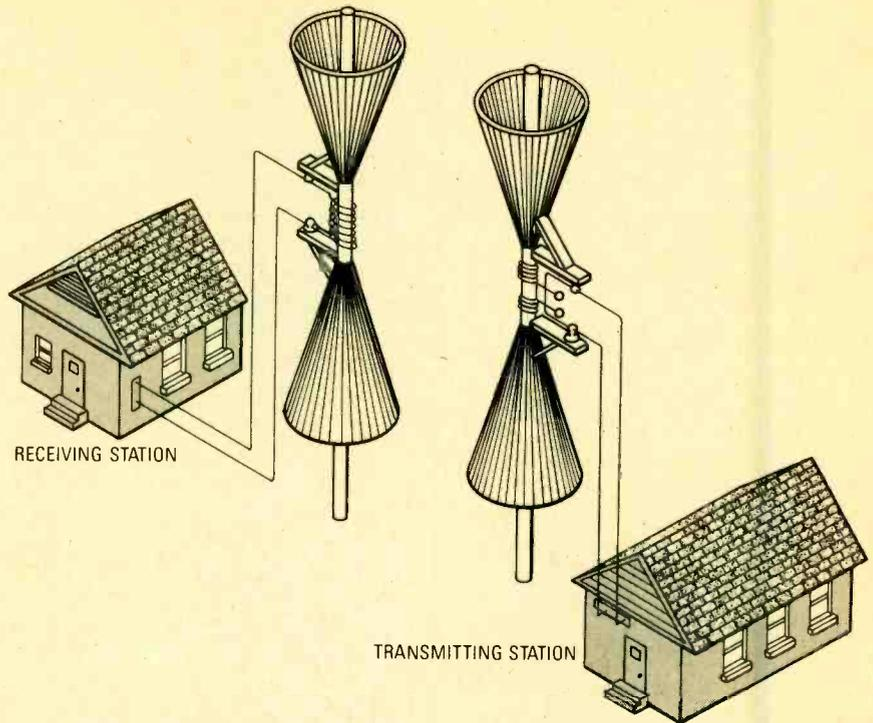

Fig. 4. Lodge's antenna designs provided frequency selectivity. The transmitter contained inductive coupling also.
The form of the antenna recommended by Lodge, however, achieved the required capacitance through construction of the dipole elements using multiple wires, or sometimes sheet metal, in the form of cones as shown in Fig. 4. Lodge then made the antenna frequency selective by adding a coil at the apex end of each of the two cones.
Fig. 4. As an option, you may want to add a DPDT switch between the output line of the CD player and the input to the circuit to allow you to select either your stereo headphones or your stereo system's speakers as the output device.
As an option, you may want to add a DPDT switch to the circuit-board assembly (as shown in Fig. 4) to allow the amp to be switched into and out of your stereo system. That arrangement allows you to select either your stereo headphones or your stereo system's speakers as the output device.
Fig. 4. The D-flip-flop can be configured to function as a toggle (T) flip-flop by connecting the D input to the \bar{Q} output, and connecting both the PR and CLR inputs to the positive supply rail, as shown here.
shown in Fig. 4. The clock (CLK) input of the D flip-flop then becomes the equivalent of the T input of a T flip-flop. When operated in that mode, the D flip-flop (like the device it emulates) toggles (changes states) once for each input clock pulse. As with the T flip-flop, it takes two full pulses to complete one output cycle, so the frequency of the output is half that of the input.